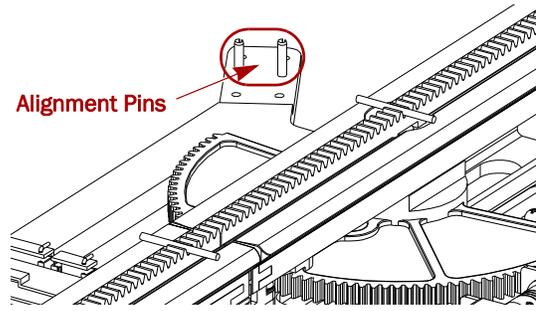

Figure 8. Shuttle Track Z-Axis Alignment Pins
6. Verify that the Z-Axis has cleared the track plate **alignment pins** (Figure 8).